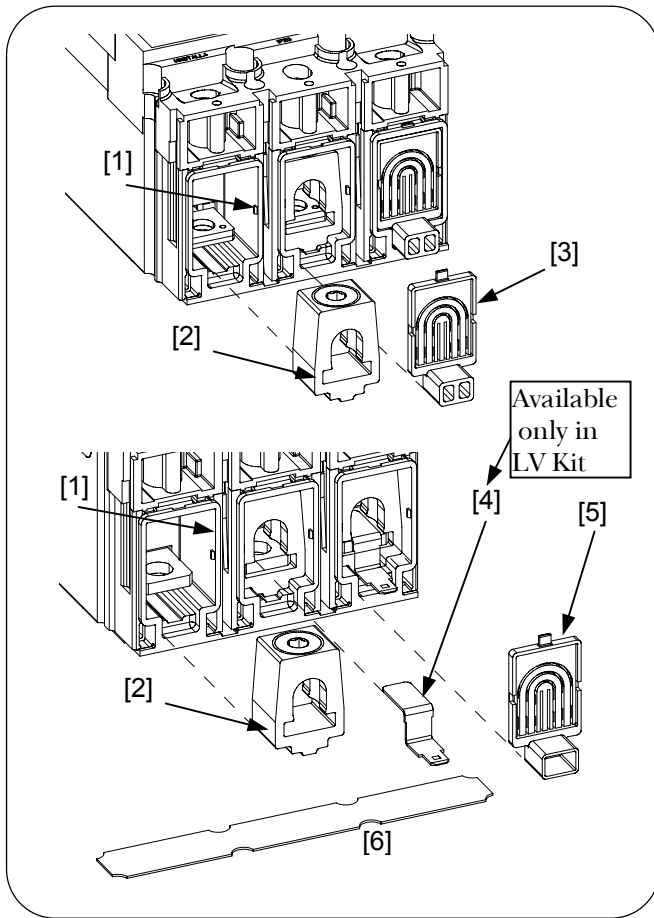

Figure 2. Installation of lug kit components on FE breaker.
2. Align lug cover [1] terminal openings with breaker terminations. Push lug cover assembly over breaker terminations until lug cover is seated fully in, as illustrated in Figure 2. Be sure lug [2] is pushed and fully seated into lug cover [1]. Hex drive of lug screw, lug cover top hole, and IP20 hole on front face of breaker should be aligned to allow for hex driver access to lug screw.
5. Front Cover Installation [3] (Please refer to Figure 2):